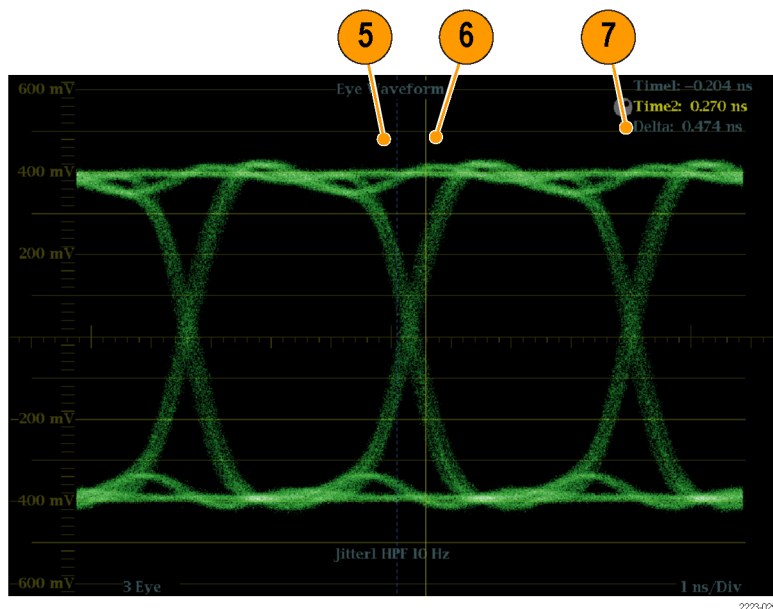

Figure 56: Using cursors to measure jitter
5. Position the first timing cursor at the left edge of the zero-crossing point of the Eye waveform. (See Figure 56.)
6. Position the second timing cursor at the right edge of the zero-crossing point of the Eye waveform. (See Figure 56.)
7. Check that the Delta readout is less than the following: (See Figure 56.)